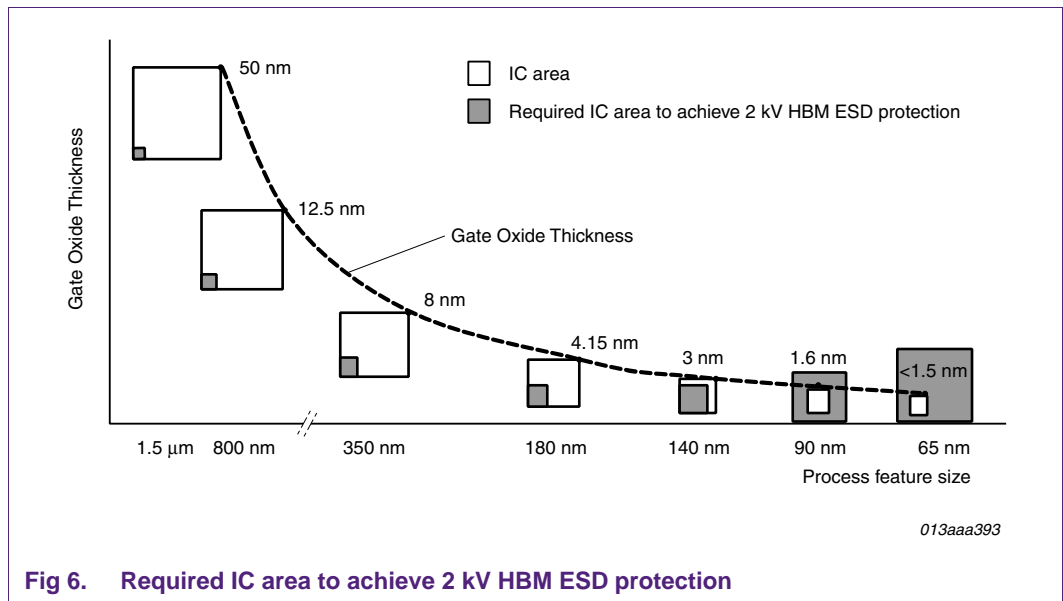

Fig 6. Required IC area to achieve 2 kV HBM ESD protection
- Due to the constantly shrinking IC process technology, the silicon die are becoming smaller and smaller. The smaller the geometry of the silicon die the lower is its ESD robustness. Figure 6 shows the size of the IC area which is needed to get a 2 kV HBM ESD protection compared to the chip size and the thickness of the gate oxide.